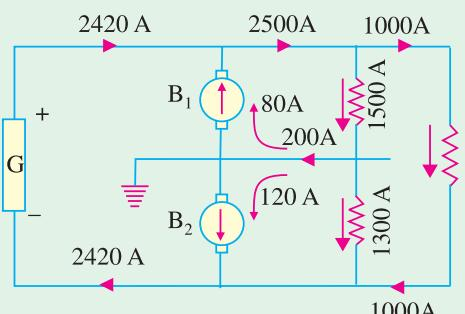

Fig. 40.48
**Solution.** Connections are shown in Fig. 40.48.